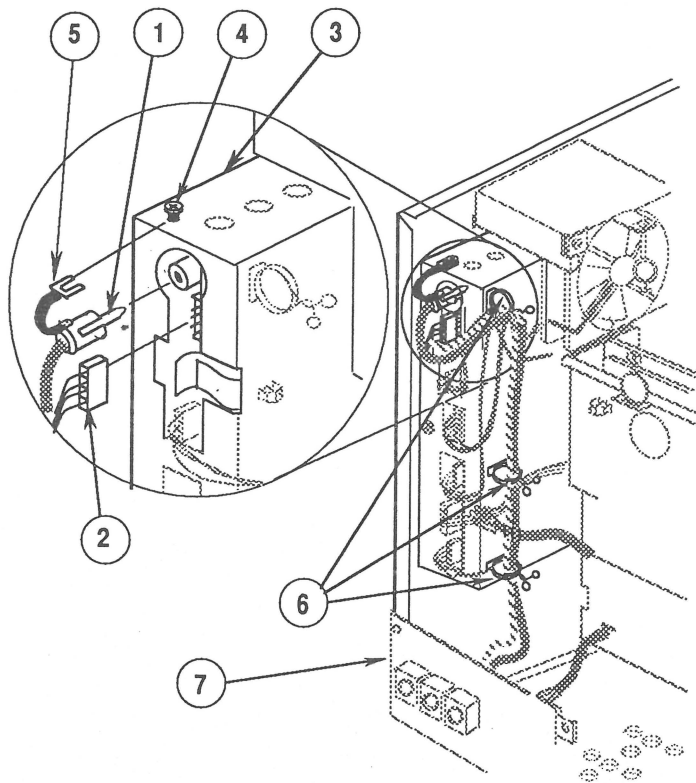

FIGURE 12
4. Locate the two signal input cables (Figure 12, #1 and #2) that are connected to the upper corner of the video board assembly (Figure 12, #3).
5. Loosen the screw (Figure 12, #4) on the video board assembly, and remove the black ground cable (Figure 12, #5) that is attached to the signal input assembly video cable (Figure 12, #1).
- Black video cable (with attached ground cable) (Figure 12, #1)
- 4-wire connector (Figure 12, #2)
Remove the video cable and the 4-wire connector cable from the three cable clamps (Figure 12, #6).